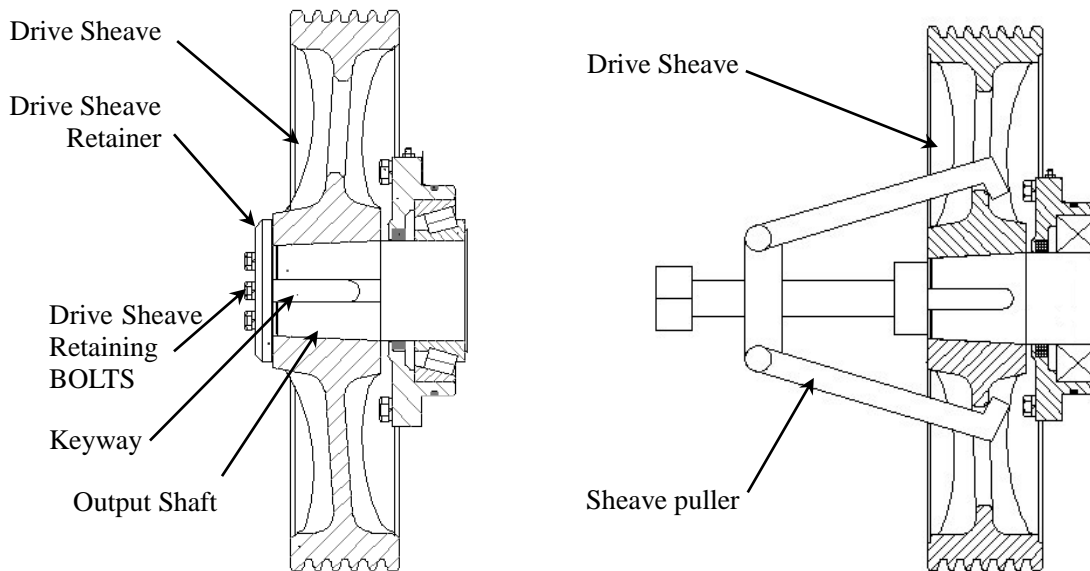

Figure 40 Sheave removal
8. Remove the three (3) drive sheave retaining bolts by 18mm open end wrench, and remove the drive sheave retainer. See figure 40.